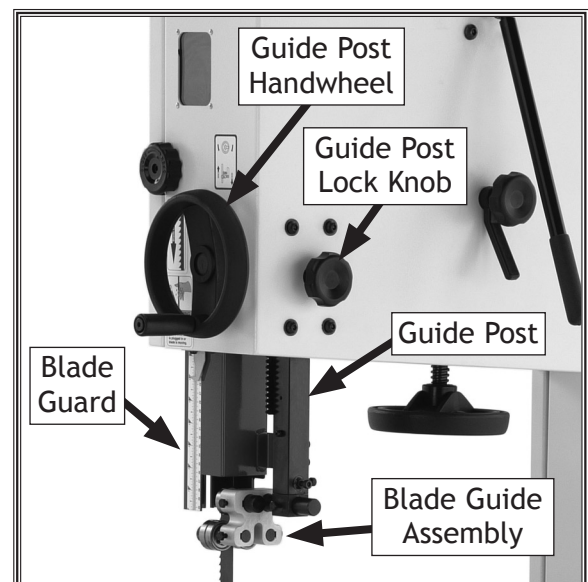

Figure 51. Guide post controls.
The guide post, shown in Figure 51, connects the upper blade guide assembly to the bandsaw. The guidepost allows the blade guide assembly to move up or down to be as close to the workpiece as possible. In order to cut accurately and safely, the bottom of the blade guide assembly must be no more than 1" above the workpiece at all times—this positioning provides the greatest blade support and minimizes the amount of moving blade exposed to the operator.
3. Loosen the guide post lock knob shown in Figure 51.